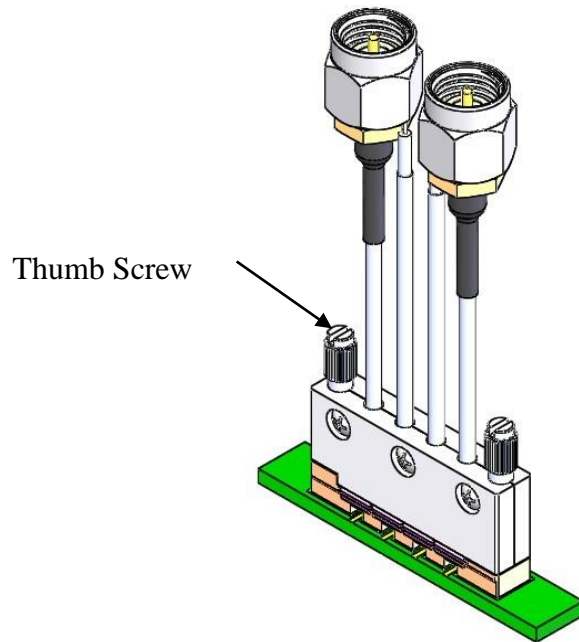

Figure 6: Connector/ Cable assembly, 4 position, Fully Assembled
4.9. Tighten two thumb screws #4-40 (Figure 6).